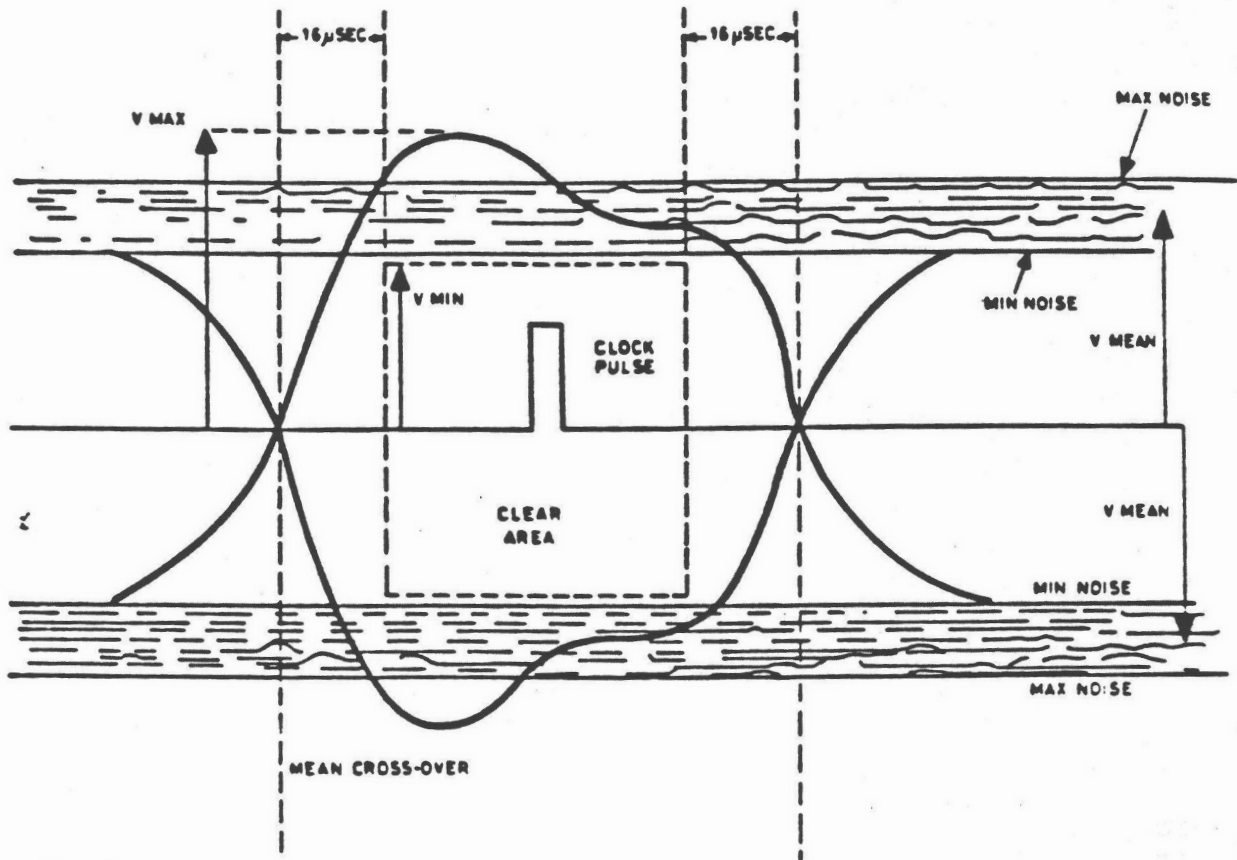

Fig 2 - Eye pattern
(f) Set c.r.o. controls to obtain 'Eye Pattern' (Fig 2) and check that the clock pulse lies within the 'Clear Area'.
- (2) (a) With D.T.S. and c.r.o. controls set for 'eye pattern' (Fig 2), measure and record V mean, which shall be the average value of the maximum and minimum noise levels of the positive or negative going halves of the eye pattern (Fig 2).